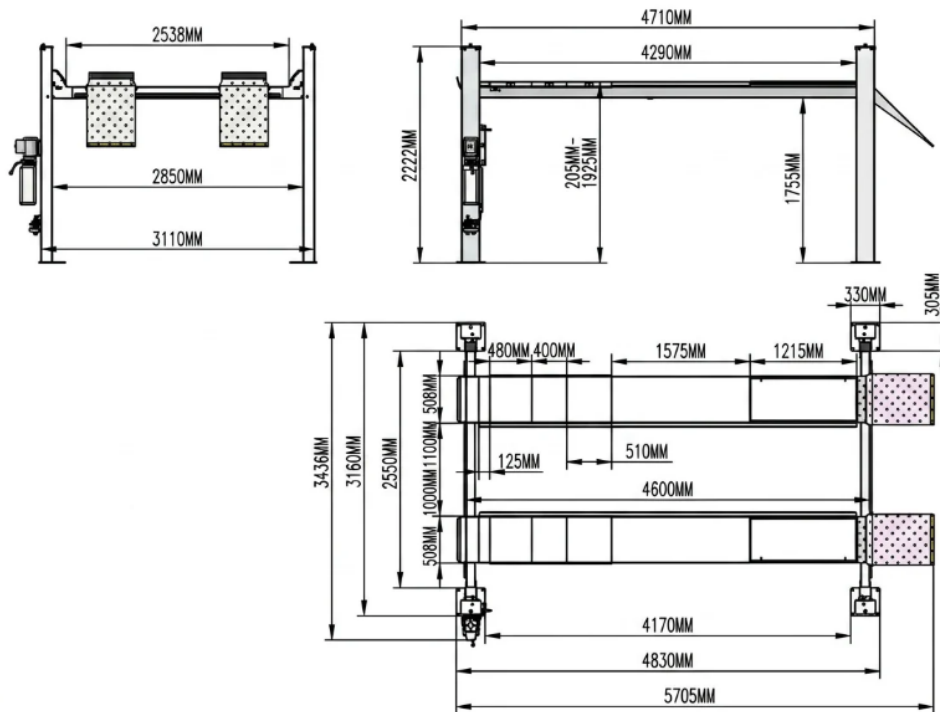

Figure 1 — Overall dimensions
- Mark out the foundation position and dimensions using Figure 1 as your guide, and set out (mark) the fixing points on the slab.